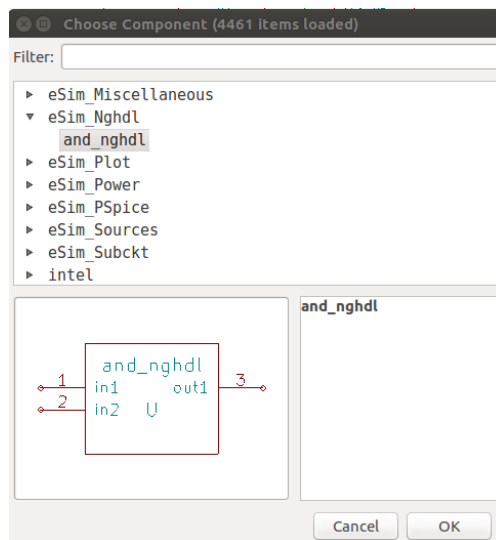
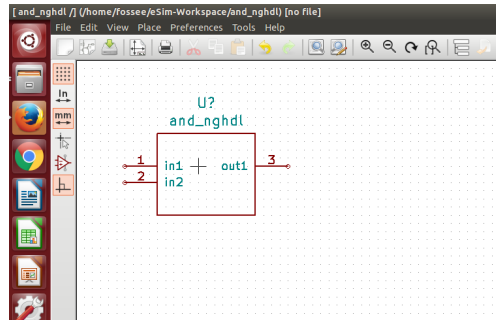

Figure 10.8: Locating the component in library
Figure 10.9: Placement of component on editor
3. Next step is to locate the component in **eSim\_Nghdl** library as shown in Fig. 10.8 and place it on the schematic editor as shown in Fig. 10.9.